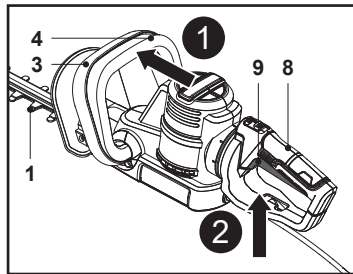

Fig. 6
1. Ensure the cutting device (blade) (1) does not touch any objects. Remove the blade cover (13) from the cutting device (blade) (1) before switching the machine on.
2. Hold the machine with one hand on the front handle (3) and the other hand on the rear handle (8).
3. Squeeze the safety switch (4) and hold it in position (Fig. 6, step 1).
4. Squeeze the on/off switch (9) to switch the machine on (Fig. 6, step 2).
5. Release either the on/off switch (9) or the safety switch (4) to switch the machine off.